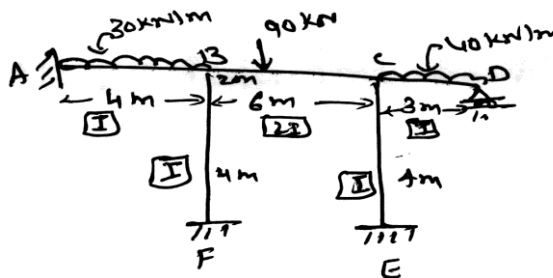

Fig Q4
- 4 Analyse the frame shown in Fig Q4 by moment distribution method and draw BMD and SFD.